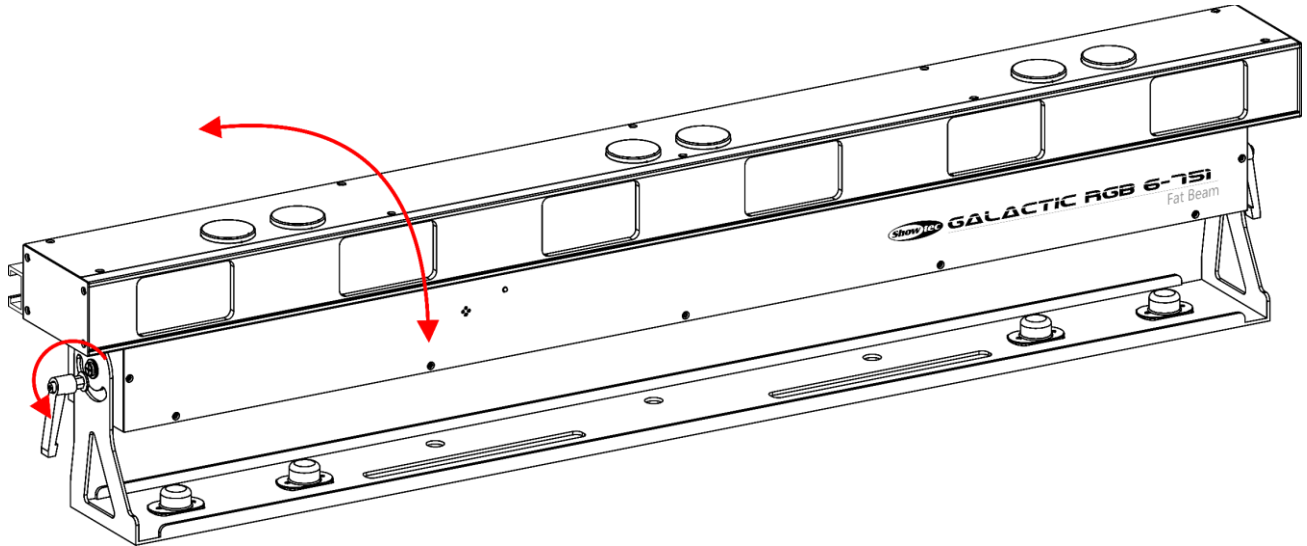

Fig. 09
- 01) Turn the **adjustment screws (01)** counterclockwise to release them.
- 02) Tilt the device at the desired angle (see Fig. 09).
- 03) Turn the **adjustment screws (01)** clockwise to tighten them. Make sure that the device cannot move freely after the **adjustment screws (01)** are tightened.